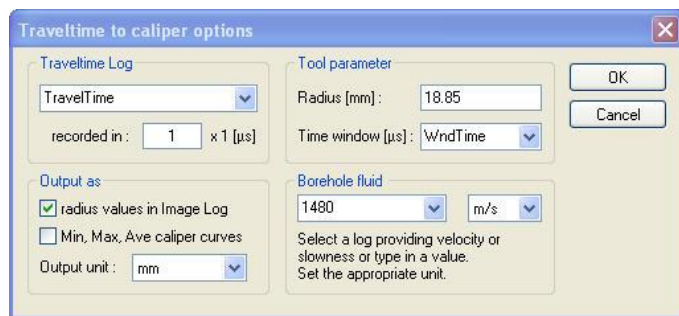

Figure 7-2 Traveltime to caliper conversion dialog box
- Select the **Calculate Caliper** process from the **Process > Image Module > Image Logs** menu. The options dialog box (Figure 7-2) will open.